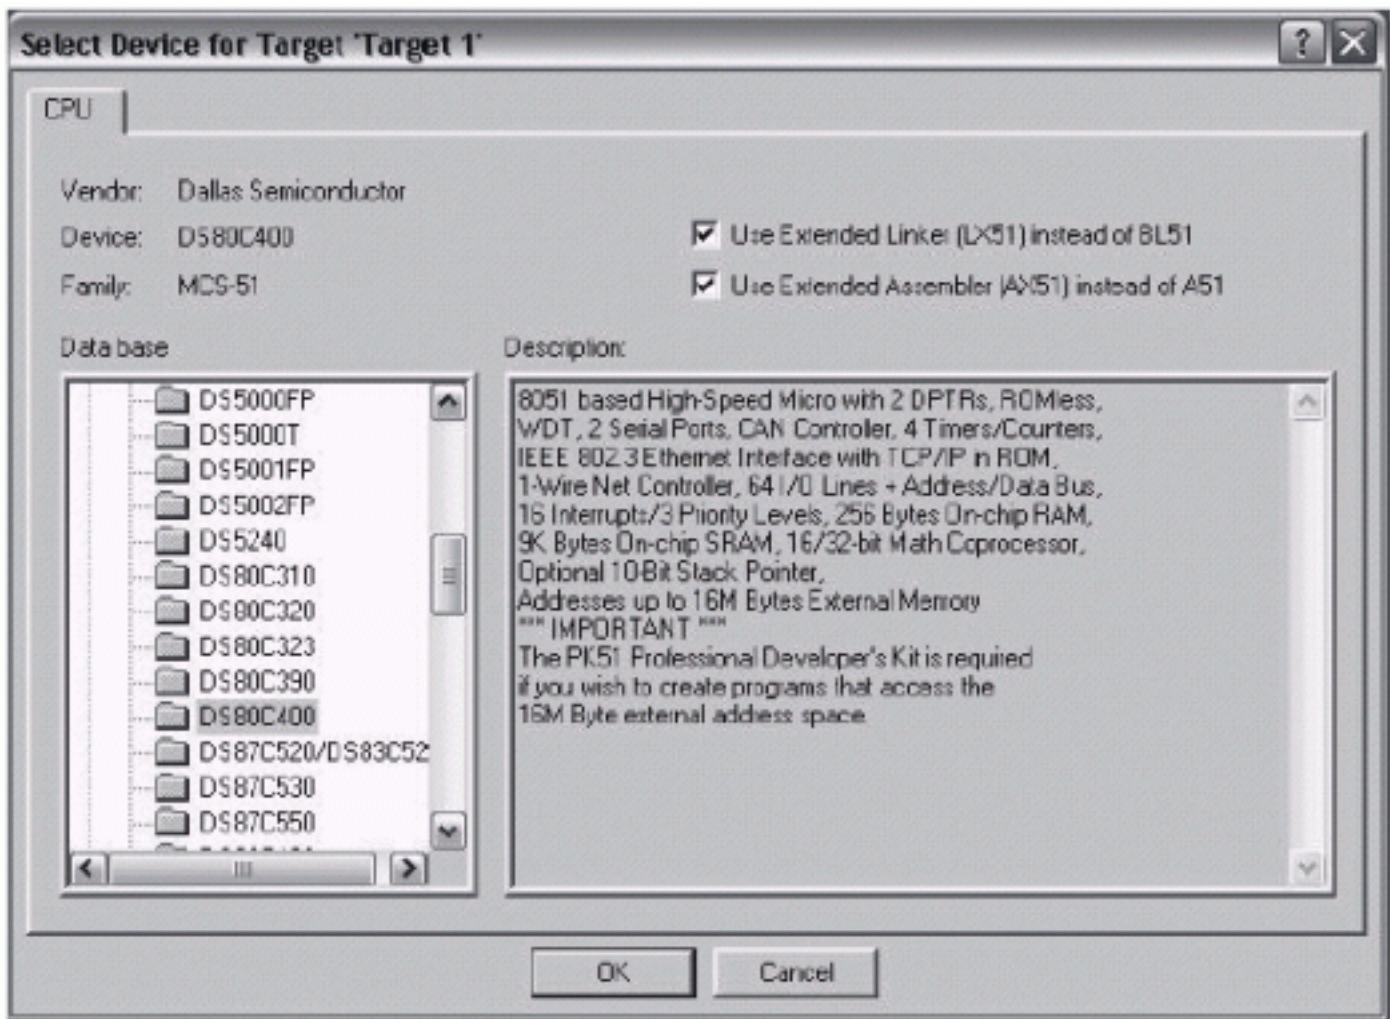

Figure 1. Select the DS80C400 for a new Keil μVision2 project.
- The *Select Device for Target* dialog will pop up. Under *Data base*, select **Dallas Semiconductor** and the **DS80C400**. Select *Use Extended Linker*, and then select *Use Extended Assembler*. Hit **OK** to continue. **Figure 1** shows the proper configuration for this dialog.